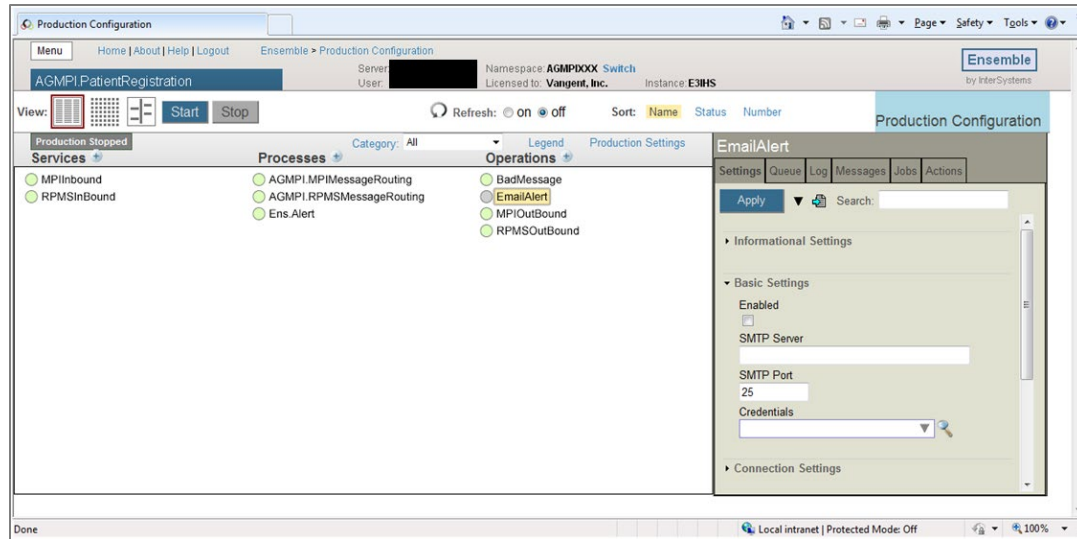

Figure 5-34: **EmailAlert** configuration
3. Click **EmailAlert** in the **Ensemble Configure Production** page to display the EmailAlert configuration settings in the **EmailAlert** pane, as shown in Figure 5-34.